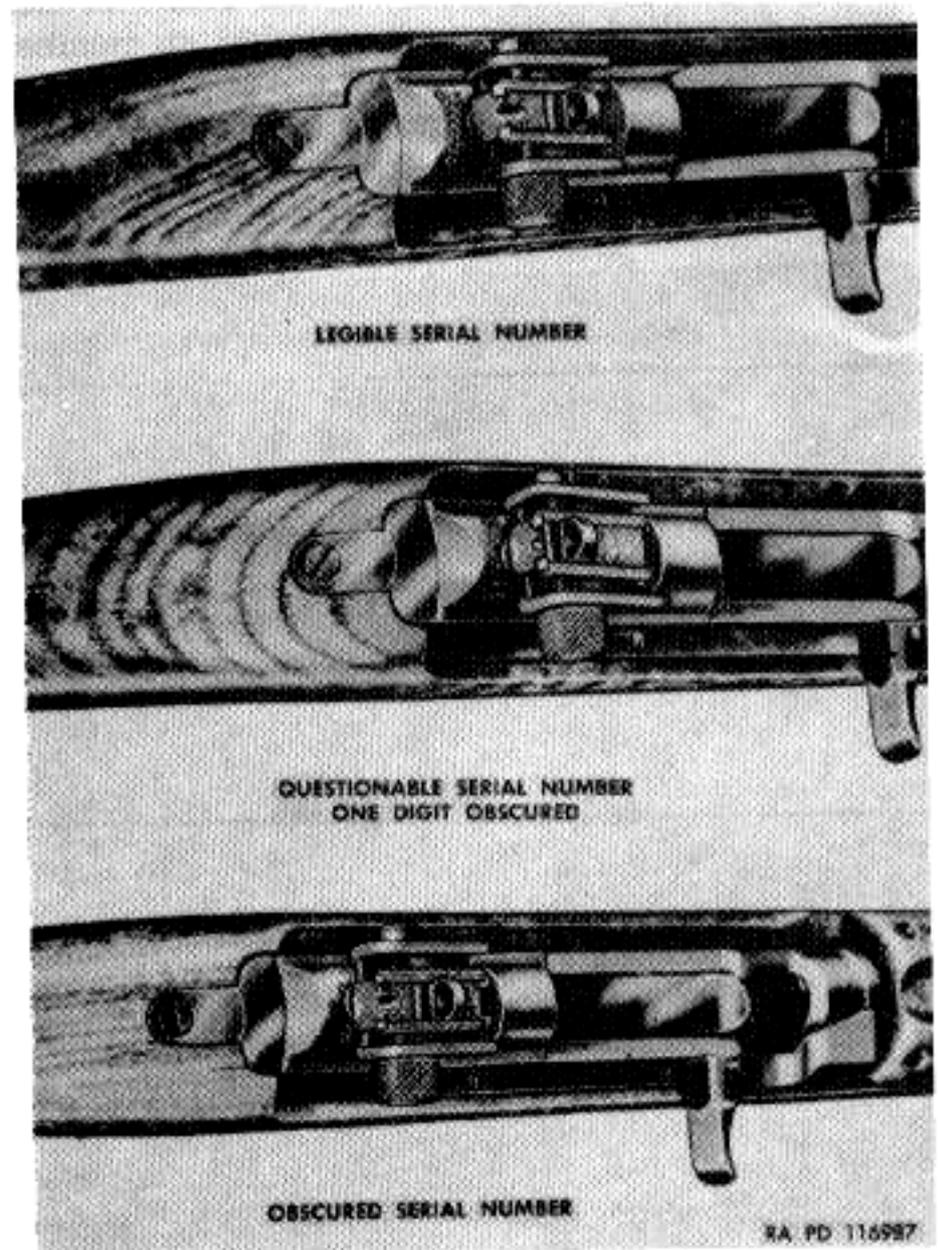
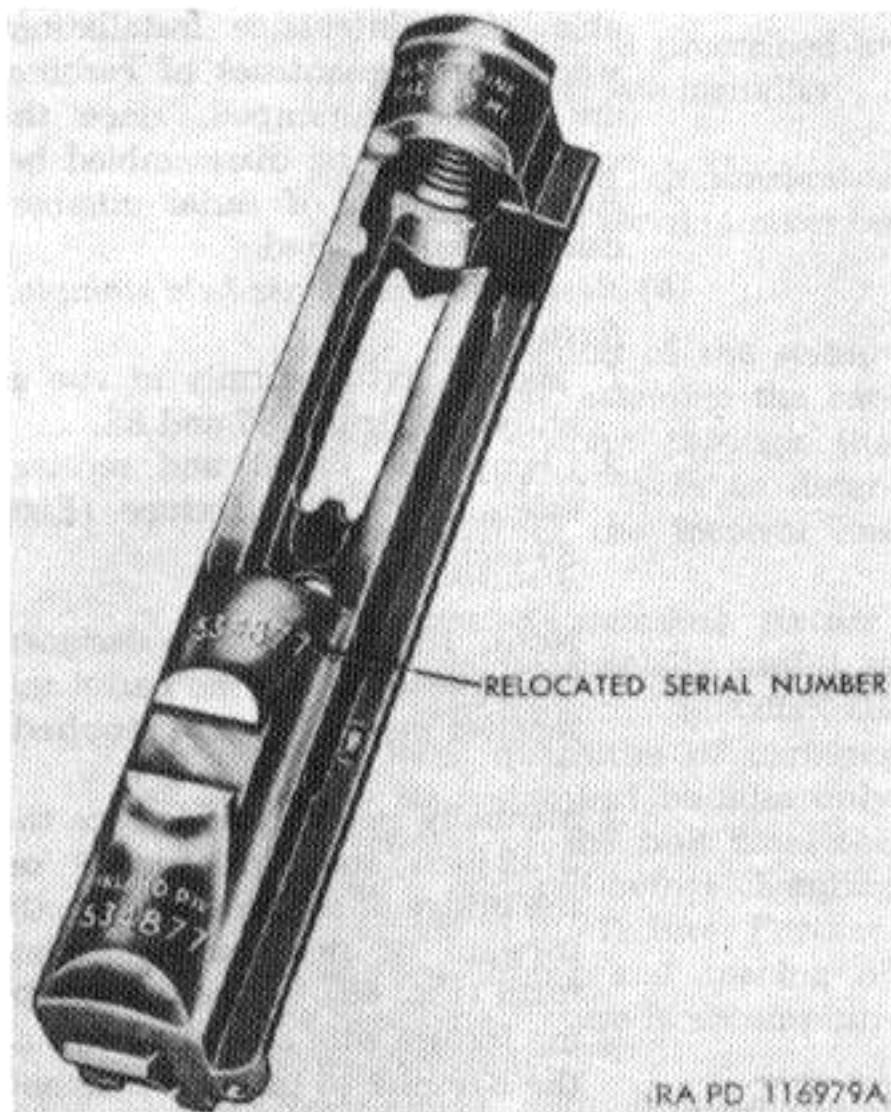

Figure 85. Serial numbers on cal. .30 carbines.
Figure 86. Relocated serial number on cal. .30 carbines.
- (2) Wash chips from reamer and chamber with lard oil after removing from chamber.
- (3) Handle reamer with care to prevent it from being chipped or picked. Never turn reamer backwards in chamber as this tends to dull the cutting edges.
e. Restoring Serial Numbers (FIELD MAINTENANCE). Serial numbers which have become obscured because of the installation of the adjustable rear sight must be restored. Since the degree of obscurity varies, this will be effected in one of two ways: (1) if the serial number is questionable (Fig. 85) (one digit obscured), use white graduation filler 52-F-100-230, listed in Department of the Army Supply Catalog ORD 3 SNLK-1, to improve the legibility; and (2) if the serial number is obscured (Fig. 85), it will be relocated on the receiver bridge directly forward of the rear sight platform (Fig. 86).
3. Manually position and space the 3/32-inch stamping fixture on the bridge of the receiver directly forward of the rear sight platform (Fig. 86). Strike the stamping fixture with one firm blow of the hammer to insure a neat and distinct impression. Repeat this procedure until all digits of serial number are transposed.